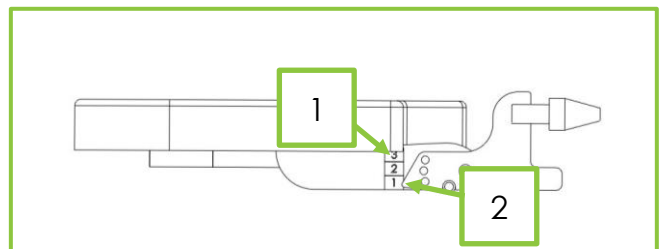

Figure 25
2. Pull and hold the cap of the plunger whilst moving the footplate to the desired measurement. The measurement setting is shown on the scale (Fig 25, Item 1) by the indicator on the frame (Fig 25, Item 2). Setting 1 = 90°, Setting 2 = 105° and Setting 3 = 120° from the vertical.